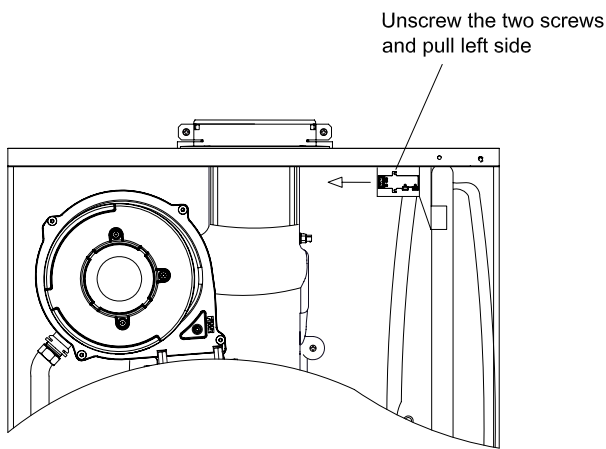

Fig.41
**8.4 TO REMOVE/REPLACE SPARK IGNITER BOX (Fig. 41)**